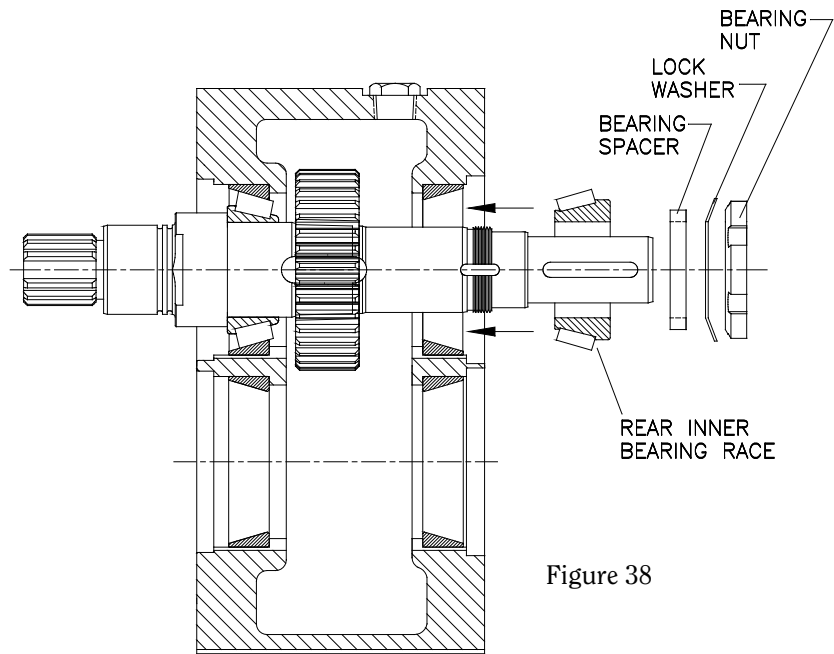

Figure 38
f) Heat the inner race of the rear bearing to no more than 300°F (580: 400°F) and quickly slide on the shaft (Figure 38). Hold the bearing in place for a few seconds so the bearing has a chance to cool.
g) Install the bearing spacer, the bearing lock nut washer and the bearing lock nut onto the shaft (Figure 38). Hand tighten the nut with the spanner wrench.